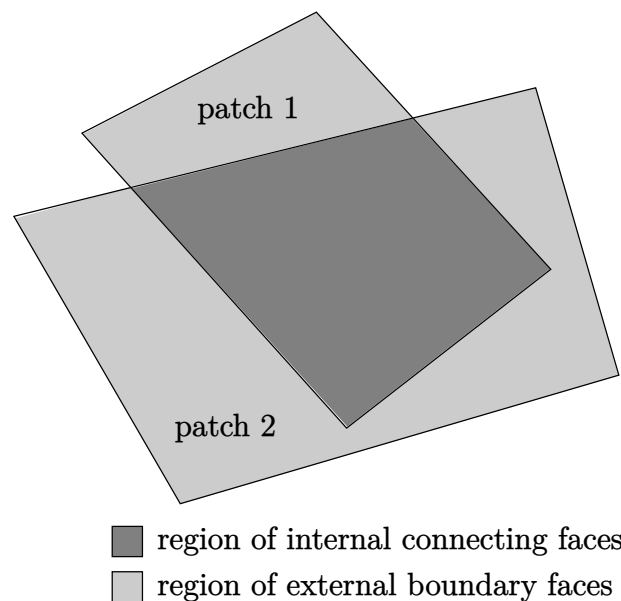

Figure 5.5: Merging overlapping patches
- if patches overlap as shown in Figure 5.5, each face that does not merge remains as an external face of the original patch, on which boundary conditions must then be applied;